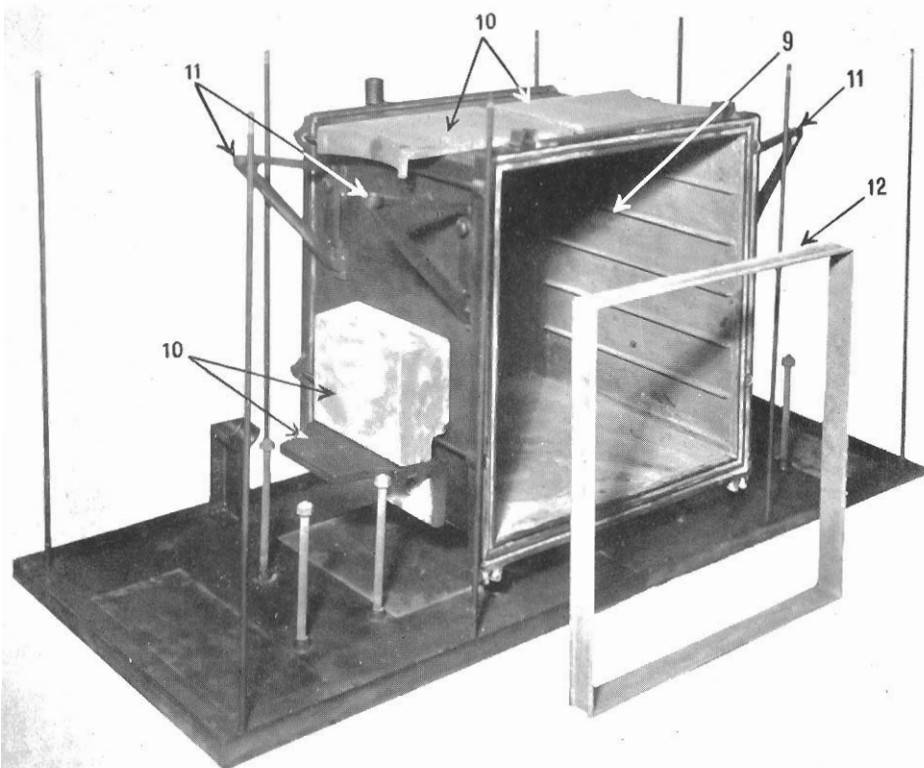
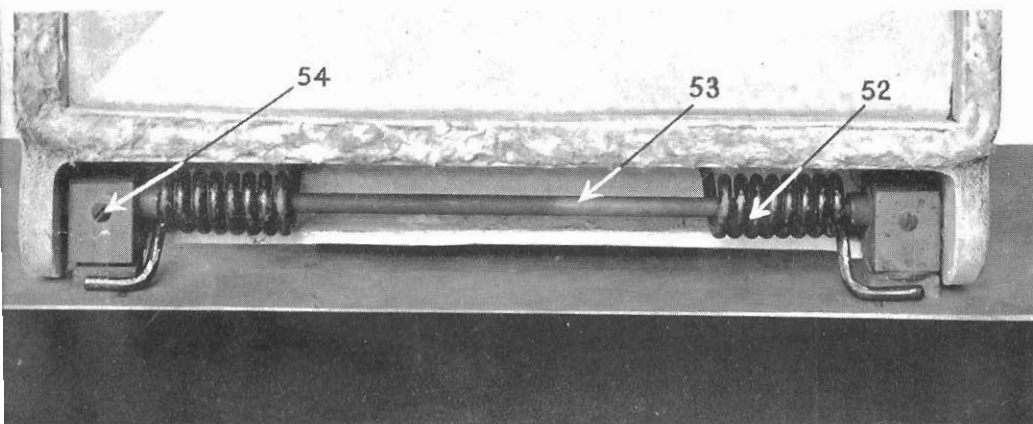

Fig. 2
Fig. 17
Bolt together the two base plates (1 and 2) with two $\frac{3}{8}$ " $\times$ $\frac{5}{8}$ " screws. Place in position the four sheet metal filler pieces (3). Screw into the base plates the six top plate stay rods (4). The two rods (5) should not be fitted until after the oven has been lifted in position (Fig. 2). Screw into the base plates the six conical headed ($\frac{1}{2}$ " $\times$ $7\frac{3}{8}$ ") ashpit supporting bolts (6) and the three $\frac{1}{2}$ " $\times$ $4\frac{1}{4}$ " oven supporting bolts (7). Fix to the base plates the two hot air duct supporting brackets with $\frac{1}{4}$ " $\times$ $\frac{5}{8}$ " screws (8).
Make good all internal joints with asbestos string and water glass. Pack the cooker and simmering oven with insulation material (see Figs. 2 and 11). Fit top plate (68) and secure with special corner stay nuts. Fix the thermostat (see Figs. 12 and 15). Fix the flue chamber (78) and insulating lid (79—see Fig. 17). Place grate in position and connect up the flue. If flue pipe is to be employed, $3\frac{1}{2}$ " i.d. heavy gauge asbestos cement material should be used.